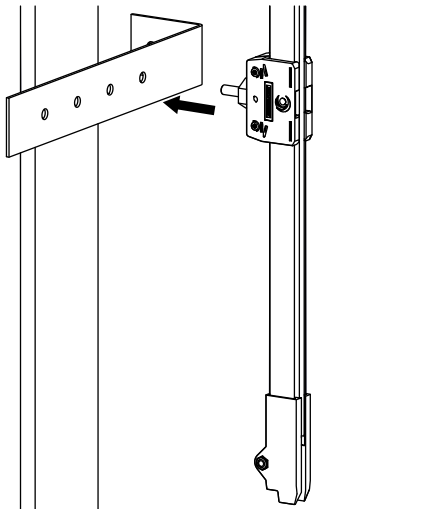
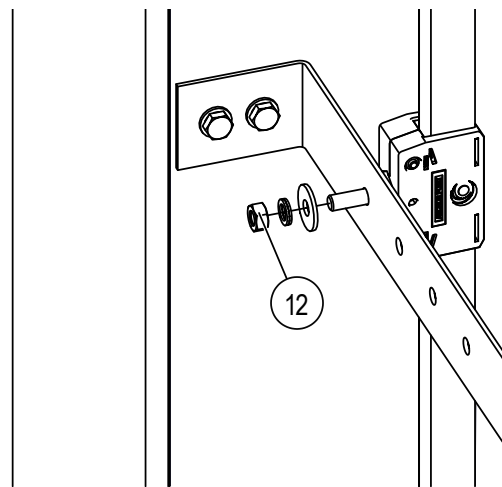
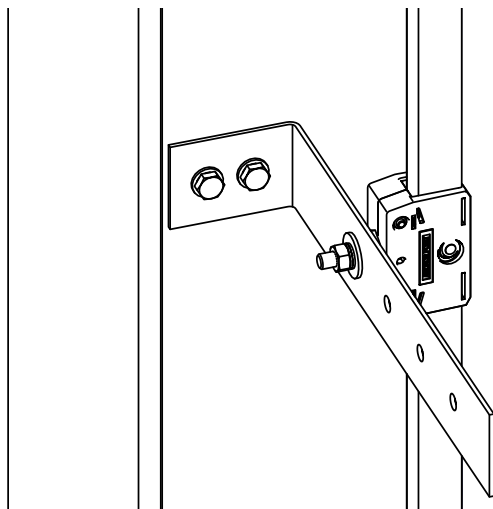

Fig. 31: Mount anchor point including conductor rail
Fig. 32: Tighten hexagon nut M8 (Pos. 12)
Fig. 33: Mounted anchor point
- Mount the anchor point, including the suspended conductor rail onto the outrigger of the customer's support structure (e.g. angle plate) (see Fig. 31). For this, tighten the M8 hexagon nut (Pos. 12) with the specified torque (SW 13, torque: **7 Nm**) (see Fig. 32 and Fig. 33). Use the open-end wrench SW 22 to counter-lock the plastic nut. Ensure that the screw heads of the cylinder screws face outward, i.e. they are turned away from the customer's support structure.